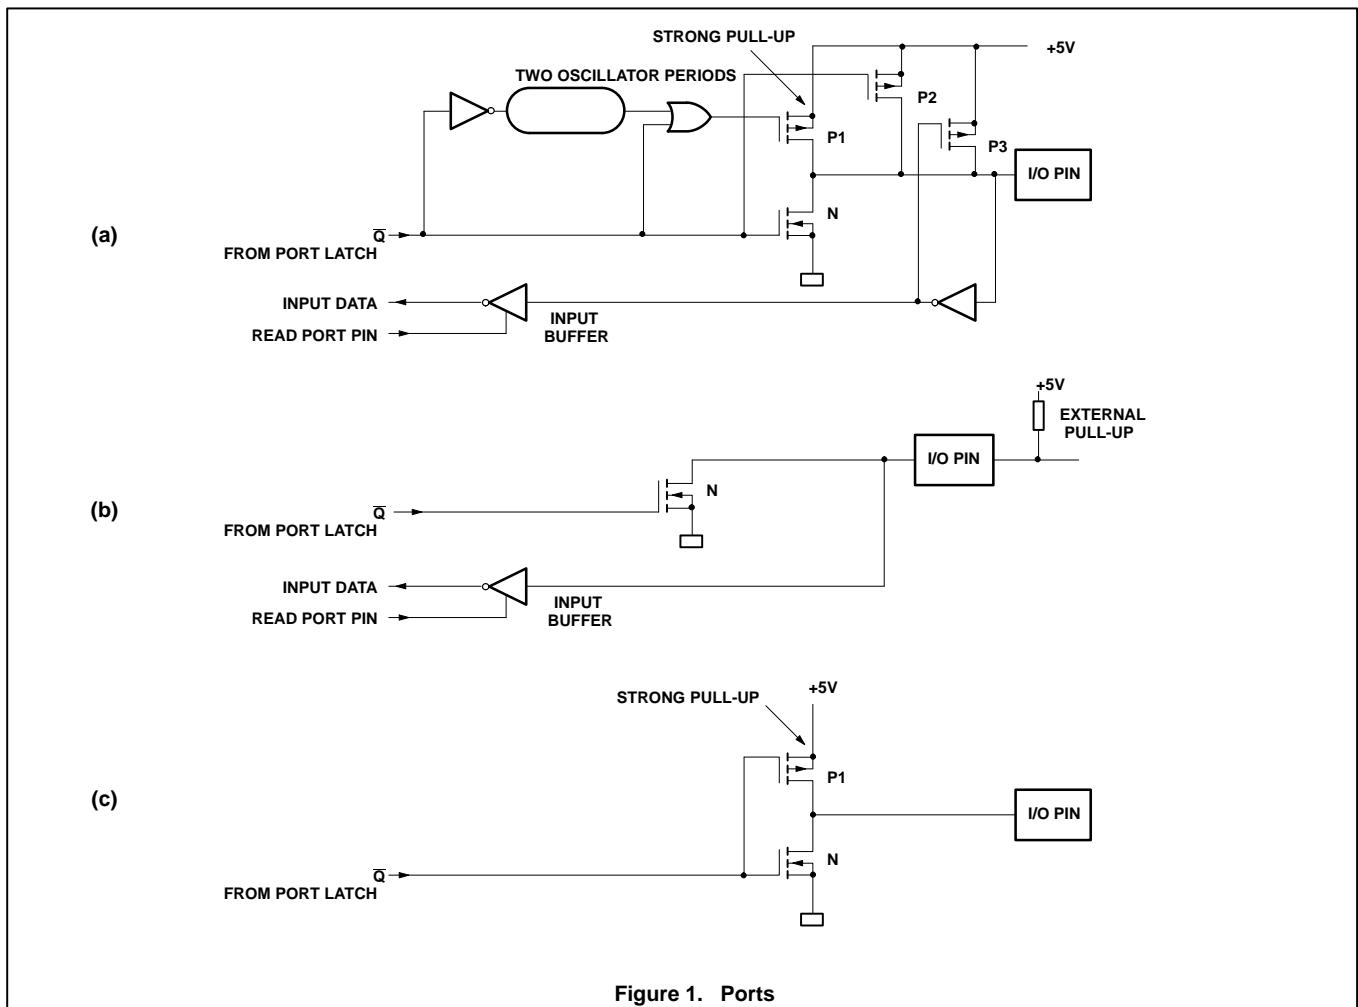

Figure 1. Ports
The pins of port 1 (not P1.6/SCL or P1.7/SDA), port 2, and port 3 may be individually configured with one of the following port options (see Figure 1):
- Option 1: **Standard Port**—quasi-bidirectional I/O with pull-up. The strong booster pull-up p1 is turned on for two oscillator periods after a 0-to-1 transition in the port latch. See Figure 1(a).
- Option 2: **Open Drain**—quasi-bidirectional I/O with n-channel open drain output. Use as an output requires the connection of an external pull-up resistor. See Figure 1(b).
- Option 3: **Push-Pull**—output with drive capability in both polarities. Under this option, pins can only be used as outputs. See Figure 1(c).
Option 2: Open drain—quasi-bidirectional I/O with n-channel open drain output. Use as an output requires the connection of an external pull-up resistor. See Figure 1(c).